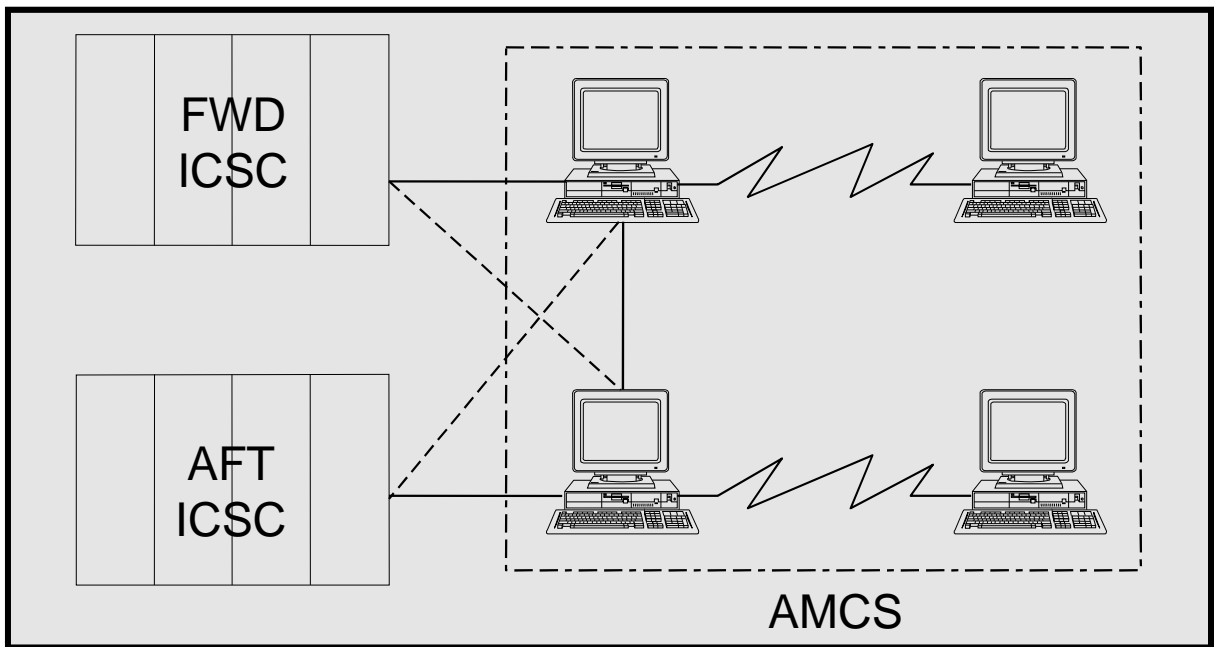

Figure 6-57.—Standard AMCS Configuration.
The purpose of the AMCS (figure 6-57) is to provide an alternative and enhanced means of monitoring and controlling the AN/STC-2(V) operational program to the primary means currently provided by the Maintenance Terminal (MT). AMCS uses a microcomputer, referred to as a Visual Maintenance Terminal (VMT), hosting a Graphical User Interface (GUI) and provides a visual means to monitor both the FWD and AFT centers simultaneously. The AMCS is capable of monitoring and/or controlling any ICSC, regardless of location, as long as the ICSC is connected to a VMT. A single VMT is connected to each ICSC and communicate with each other over a serial interface as well as via modem to VMT's external to the ship.